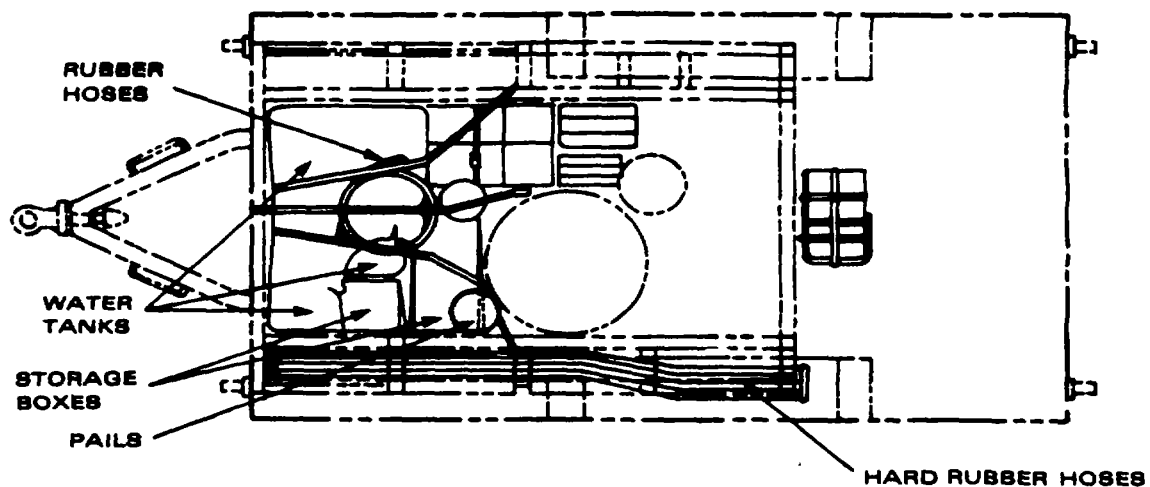

Figure 1-3. Top View Of ROWPU With Operating Equipment Stored (Army)
1-6. LOCATION AND DESCRIPTION OF MAJOR COMPONENTS. The Army ROWPU is 18 feet (5.5 meters) long, 8 feet (2.4 meters) high, and 8 feet (2.4 meters) wide. It weighs about 8 ½ tons (7.71 metric tons), including the generator set. Figure 1-3 shows the ROWPU from the top with its canvas cover removed. Take a close look at how all the necessary operating equipment is stored on the trailer for transport and shipment.
a. To provide room for all operating components, material is stored in layers (fig. 1-3 and 1-4). The top layer consists of rolled-up (suction) hoses on top of two folded water tanks. Stored between the tanks is a sledge hammer and a collapsed telescopic aluminum paddle. Next to the tanks is a stack of five plastic pails with chemical names on their sides. On the same side of the ROWPU you will find two storage boxes fastened with a strap under the tanks. The boxes contain various chemicals, tools, and installation items. Nine sections of suction hose are stored on the side of the frame.